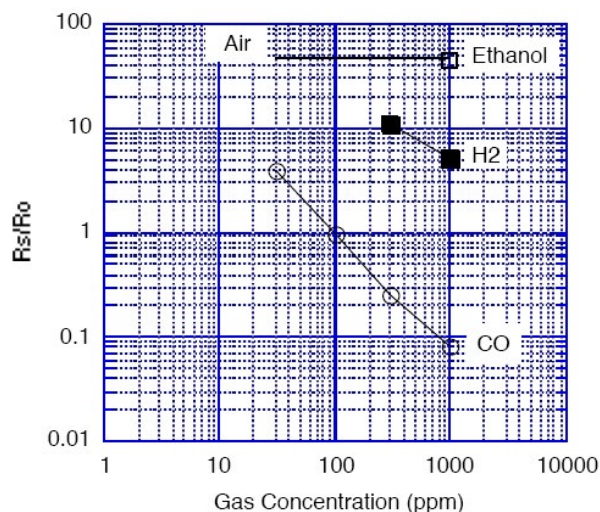

Figure 25: Graph of the sensitivity of the TGS2442 taken from the Figaro sensor's data sheet
The TGS2442 is a resistive sensor sensitive to the changes in concentration of Carbon Monoxide (CO) and, very slightly, Hydrogen ( $H_2$ ), which may be placed in the board's socket 3A and 4, and must be connected in the way indicated in images 51 and 53 of sections "Connector 3" and "Connector 4" about these two connectors. The sensor's resistance would vary according to the graph in figure 25, which may present significant variations between two different sensors, so it is recommended to consult the sensor's documentation to choose the load resistance and amplification gain and calibrate it before finally inserting it into the application.